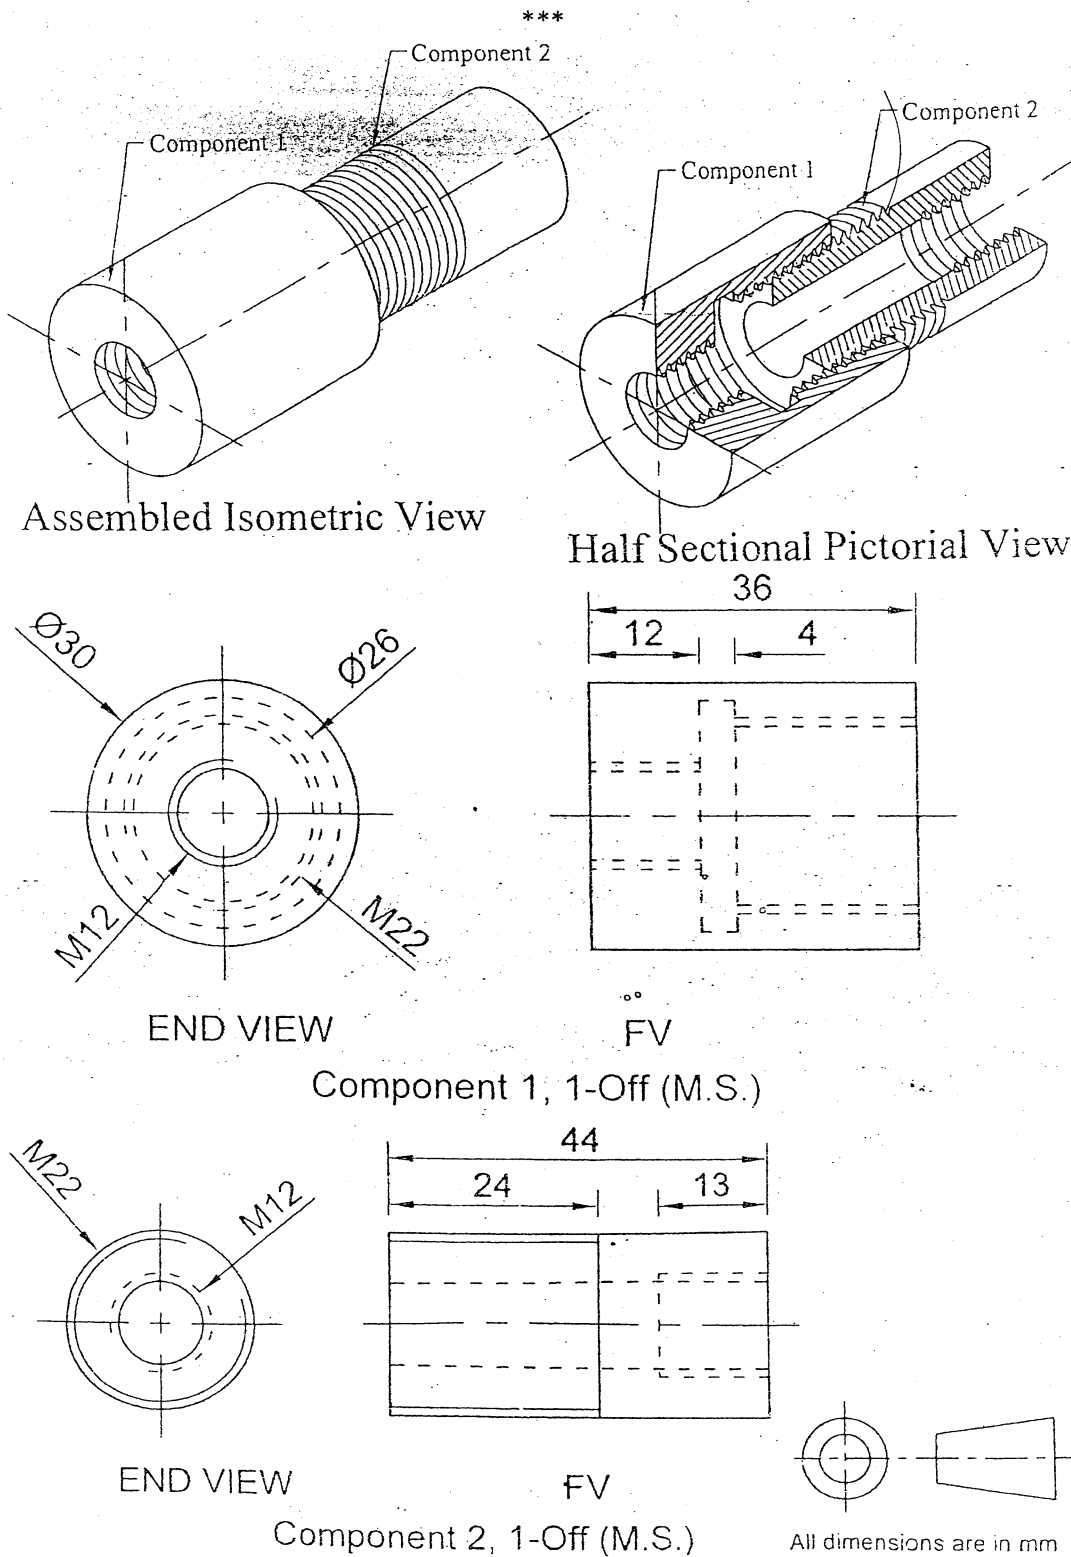

Figure 3
2. A solid box of size  $60 \times 45 \times 40$ mm is resting with its base ( $60 \times 45$ ) on the ground plane. Draw its angular perspective view with its vertical faces equally inclined to the picture plane (PP) and the nearest vertical edge is touching the PP. The station point is 80mm above ground level, 40mm away from the PP and the central plane passes from the vertical edge which is touching the PP. [5]
3. The production drawing of coupling is shown in figure 3. Draw its assembled half sectional front view and side view. [15]